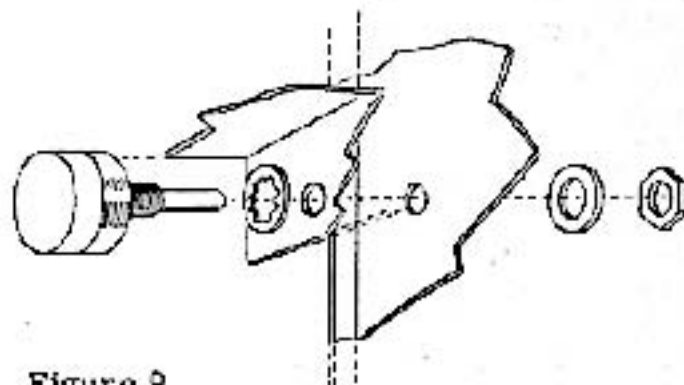

Figure 9
- (✓) Mount the sensitivity control in location M. See Figure 9 for details of hardware assembly. Keep the lugs exactly as indicated in Pictorial 3. On some controls, a small locating lug protrudes from the front of the control housing. If this interferes with the mounting, cut it off or bend it over.
- (✓) Mount the phone jack (see Figure 9 and Pictorial 3) in location L. Keep all lugs oriented exactly as indicated.
- (✓) Attach the free end of the 1 1/2" lead from M3 to the ground lug of the 1-lug and ground terminal strip (NS).
- (✓) Attach the free end of the 47 K Ω resistor (yellow-violet-orange) to terminal strip E2 (NS).
- (✓) Attach the free end of the 1 K Ω resistor (brown-black-red) to lug L2 (NS) on the phone jack. Be sure to use the previously prepared insulated sleeving.